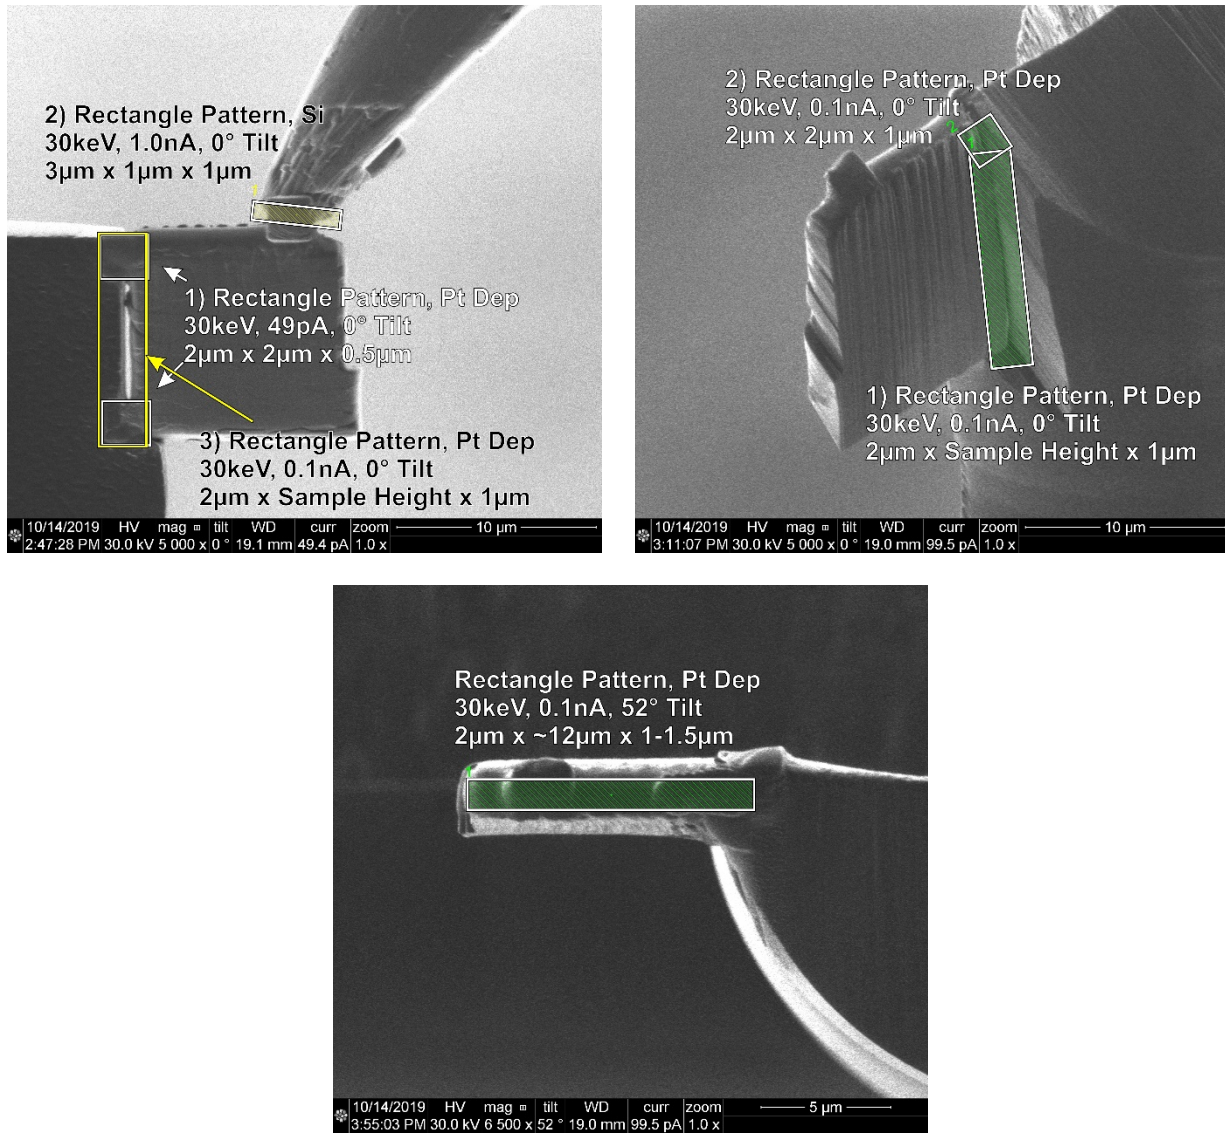

Figure 10. Attach Lift Out to Grid
- Pattern = Rectangle, $2\mu\text{m} \times 2\mu\text{m} \times 1\mu\text{m}$. Mode = Pt Dep. (Figure 10)